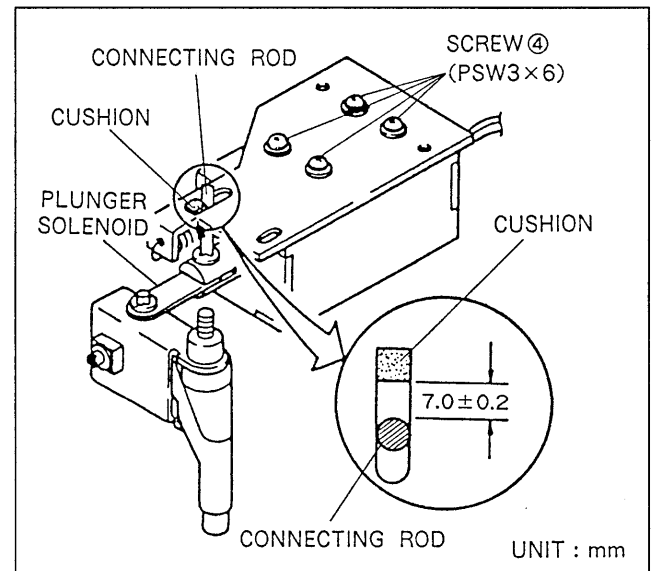

Fig. 6-12-2. Pinch Roller Solenoid Position Adjustment
6. With the plunger of solenoid caused to be absorbed, as shown in Fig 6-12-2, adjust the mounting position of the pinch roller solenoid so that the clearance between the connecting rod and cushion is set to 7.0 ± 0.2 mm. After adjustment, tighten the four screws ④.